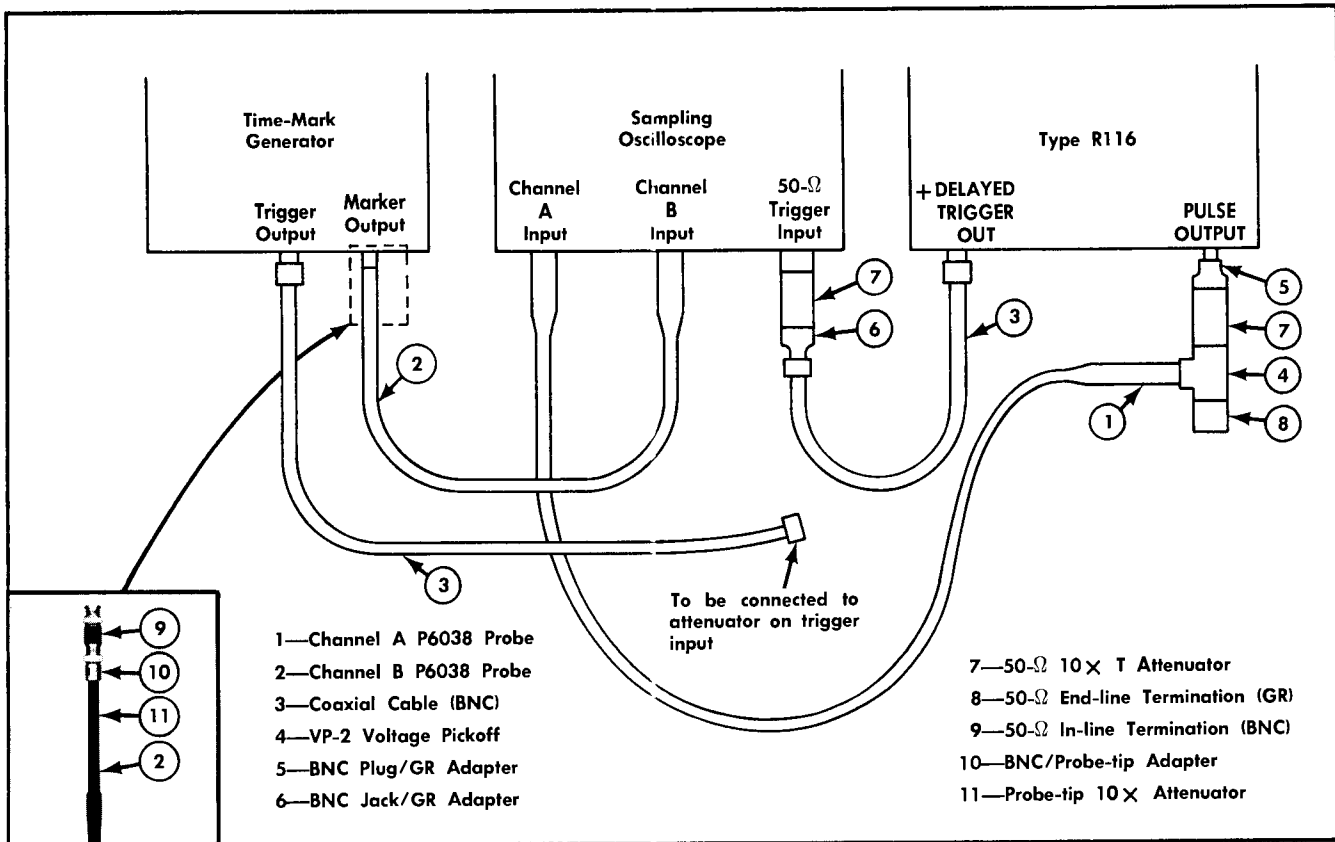

Fig. 7-23. Suggested initial connections for observing the Type R116 output pulse and timing signal on the sampling oscilloscope.
- b. Connect the Type R116 output pulse to Channel A of the sampling oscilloscope as shown in Fig. 7-23.
c. Connect the Type R116 +Delayed Trigger Out pulse to the sampling oscilloscope 50-Ω External Trigger Input as shown in Fig. 7-23.
b. Connect the time-mark generator marker output to the sampling oscilloscope Channel B vertical input as shown in Fig. 7-23.